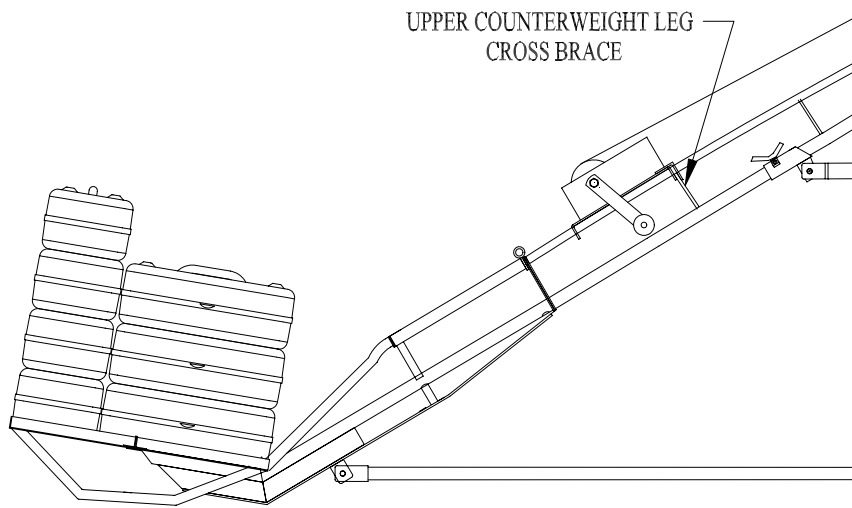

Figure 3-1.
2. Mount the hand winch on the hoist so the crank is located on the right-hand side. The winch is located on the upper counterweight leg of the HS1000 hoist such that the space between the front of the mounting plate and the angle clip fits over the counterweight leg cross-brace. Secure the winch in place by clamping the mounting plate to the counterweight leg with the angle clamp. See Figure 3-1.